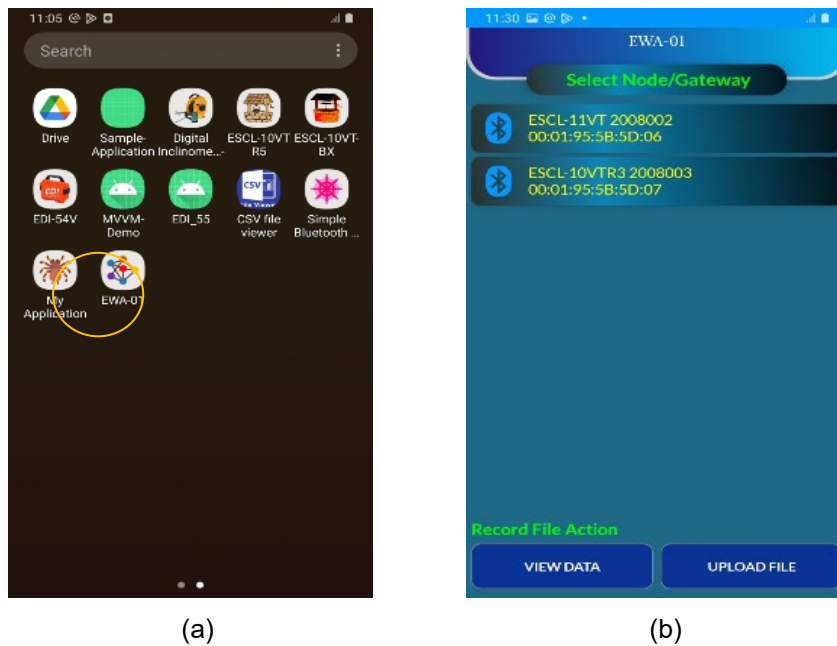
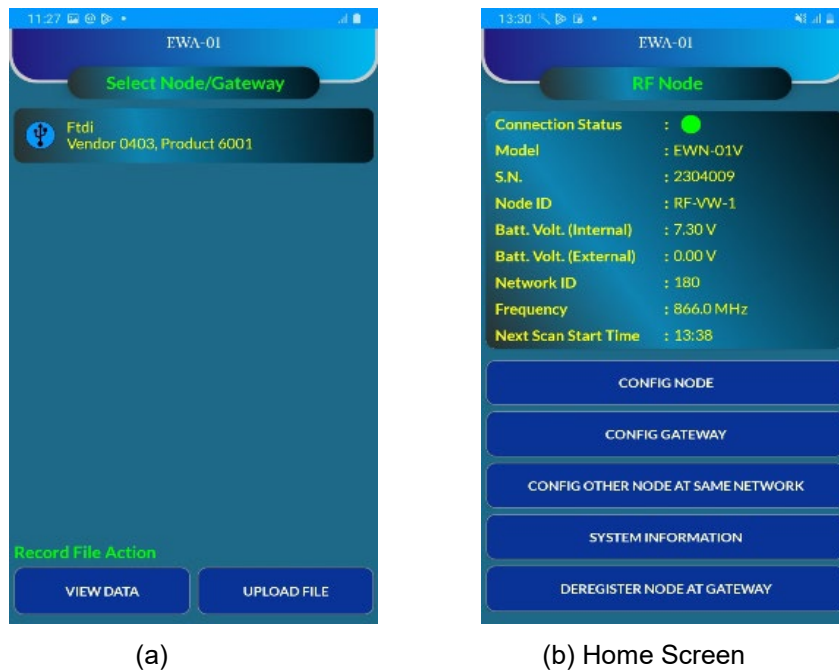
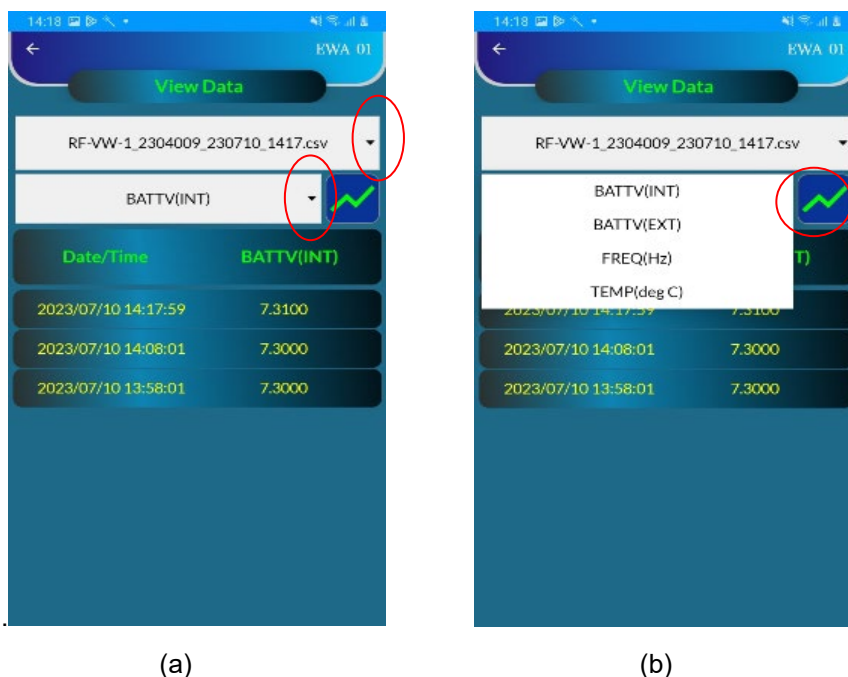
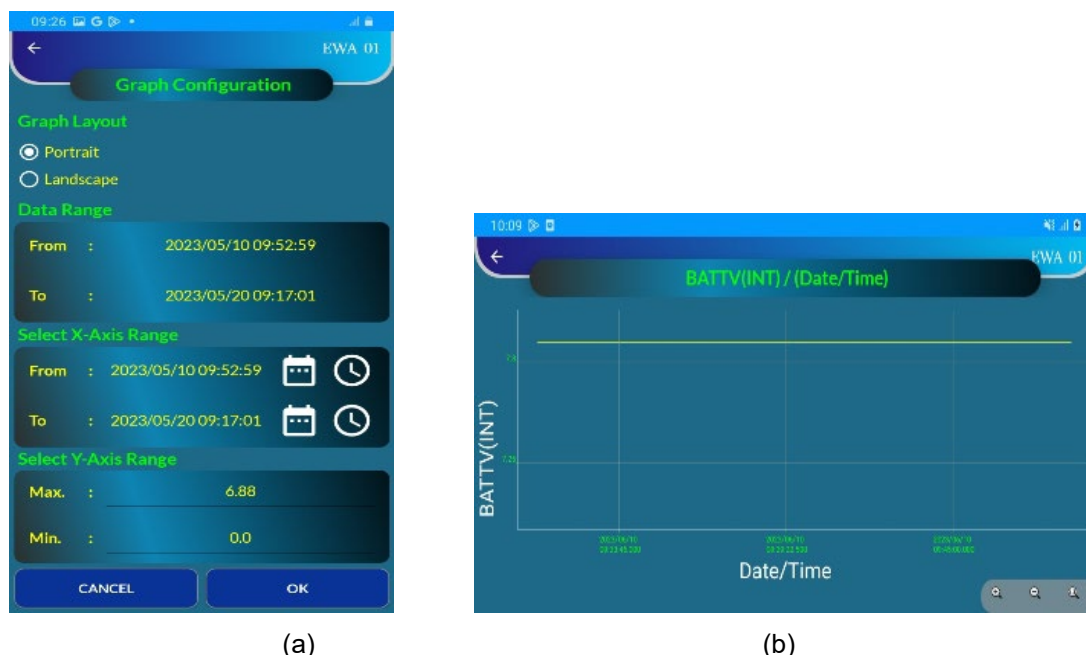

Figure 6-5
Figure 6-7 Home screen
Figure 6-14 View data
Figure 6-15 View data in graphical format
Install the apk file (provided with the supply) for “EWA-01” app on the phone. App shortcut will be available in the list of application software, as shown in figure 6-5 (a). Open the application and allow all the permissions required for proper functioning.
- Open the "EWA-01" apk installed on Android phone. It will show the list of paired Nodes as shown in figure 6-5 (b). Select the Node that you paired earlier from the list. It will take you to the home screen of the node as shown in figure 6-7 (b).
- Once connected a prompt window will appear as shown in the figure 6-7 (a). Click on the FTDI button, home screen of “RF Node” will appear, as shown in figure 6-7 (b).
- Press the "VIEW DATA" tab from "Download" screen (figure 6-13). A window as shown in figure 6-14 (a) will appear.
- Graph view of selected parameter is also available. Tap the graph button as shown in the figure 6-14 (b). A window as shown in the figure 6-15 (a) appears. To view the graph, select Graph Layout, Data Range, X-axis and Y-axis range and click on "OK" button.
- Click “NODE DIAGNOSTIC” tab from “Config Node” screen (figure 6-7 (a)). A window as shown in figure 6-14 will appear.